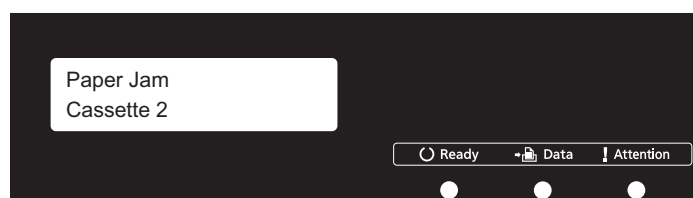

Figure 1-3-2 Paper misfeed indication (printer)
*: Refer to figure 1-3-2 or 1-3-3 for paper jam location (P.1-3-2, P.1-3-3).